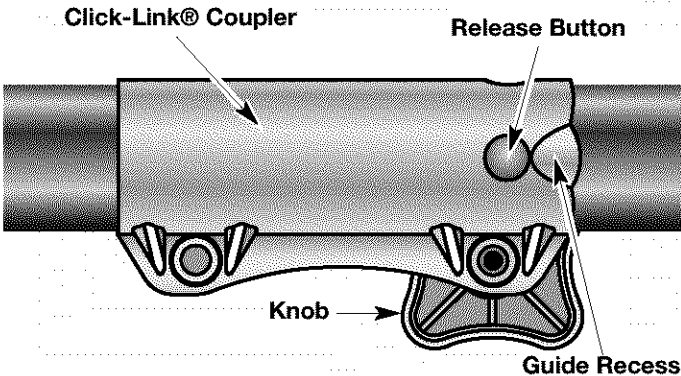

Fig. 4
1. Turn the knob counterclockwise to loosen (Fig. 4).
2. Press and hold the release button (Fig. 4).
3. While firmly holding the upper shaft housing, pull the cutting attachment or add-on straight out of the Click-Link® coupler (Fig. 4).
1. Turn knob counterclockwise to loosen (Fig. 4).